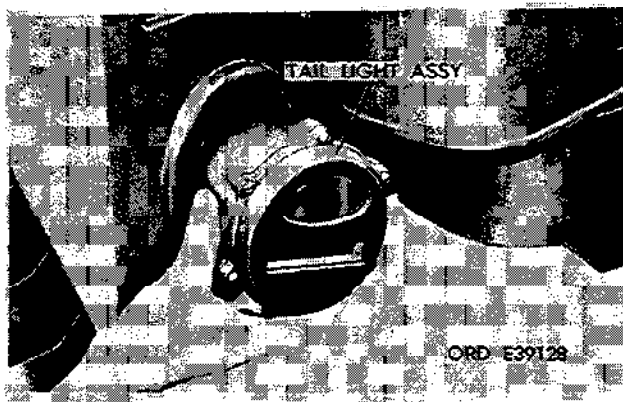

Figure 2-209. Remove taillight from opening in body (M151, M151A1, M151A1C and M718).
(2) Remove taillight from opening in body (fig. 2-209).